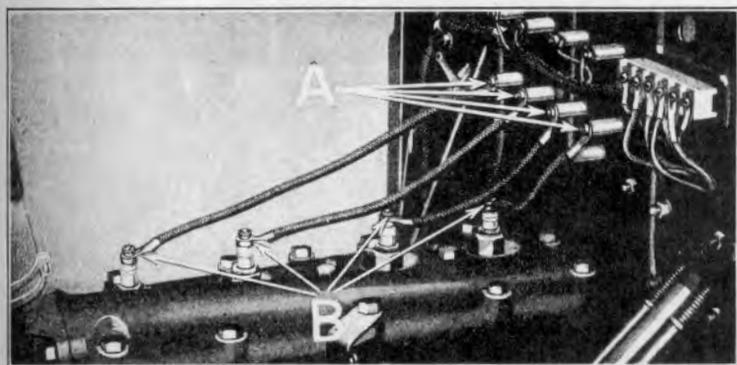

Fig. 106
- 130 **Install spark plugs** by removing the pipe plugs which had previously been installed (See Par. 38) and screw in spark plugs, connecting the wires to coil box posts (See "A" Fig. 106) and spark plugs "B".